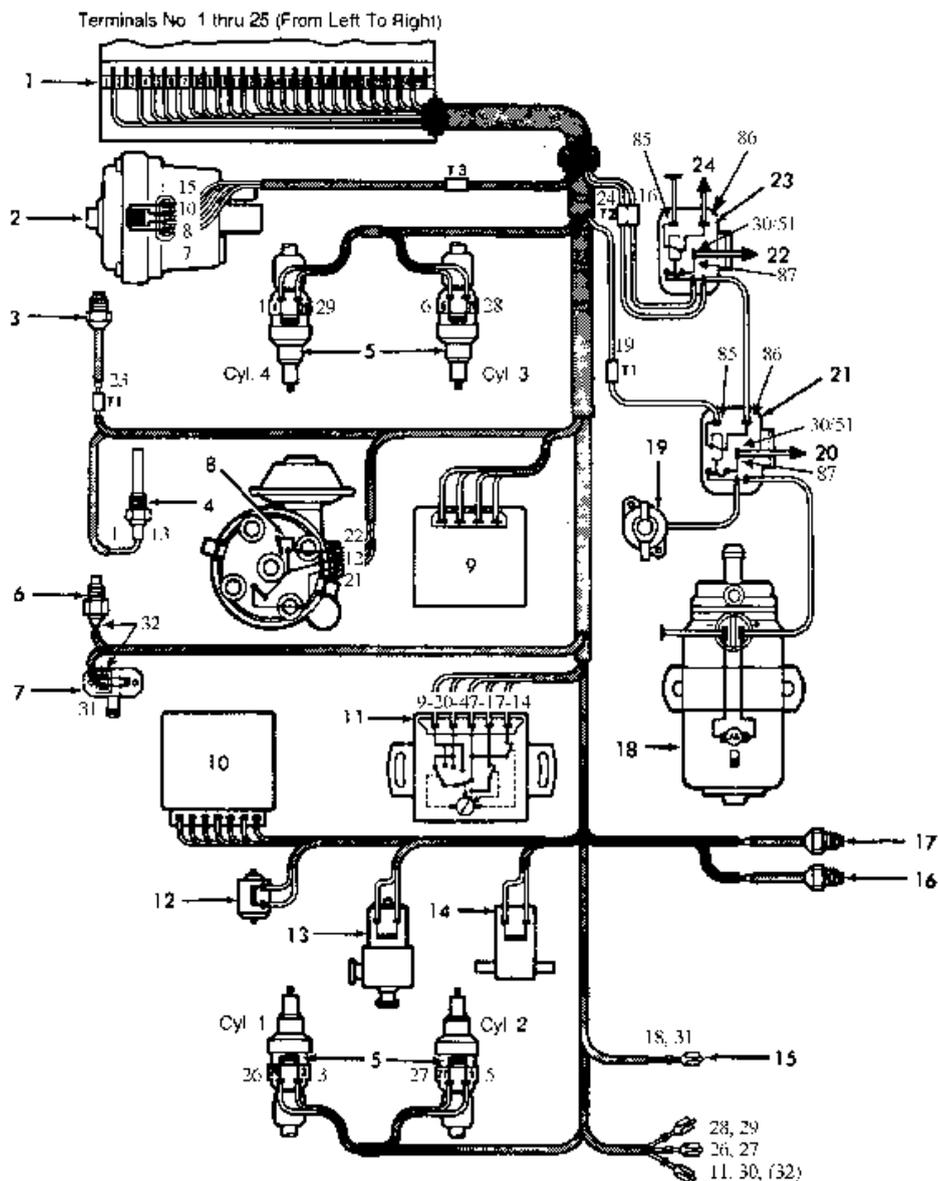

Fig. 10: Typical 4-Cyl. Bosch D-Jetronic Fuel Injection Wiring Diagram (See notes on previous page)
1. Attach one ohmmeter lead to terminal No. 12 on trigger connector. Alternately attach second lead to terminals No. 13, 14, 21 and 22 on trigger connector and note reading of each, while cranking engine without starting. See Fig. 10 or 11.
NOTES for Fig. 10: Typical 4-Cyl. Bosch D-Jetronic Fuel Injection Wiring Diagram